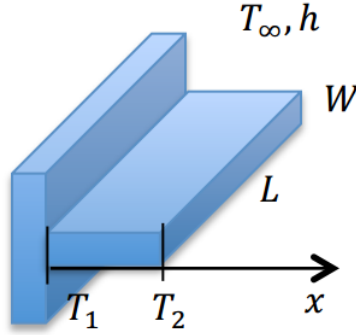

Figure 2.10: Model of example 2.4.1
**Example 2.4.1 Constant  $k$  and  $A$ .** *Refer to tutorial 2-5-1 and 2-5-2 Fin Solutions.nb.* A rectangular fin with uniform cross-sectional area has constant heat conductivity  $k = 3W/m.K$ , width is  $W = 0.01m$ , Thickness is  $L = 1m$ . The surface of the fin is exposed to ambient air at  $10^\circ C$  with a convection heat transfer coefficient  $h = 10W/m^2K$ . Plot the temperature distribution in the fin under below conditions. (Shown in figure 2.10)